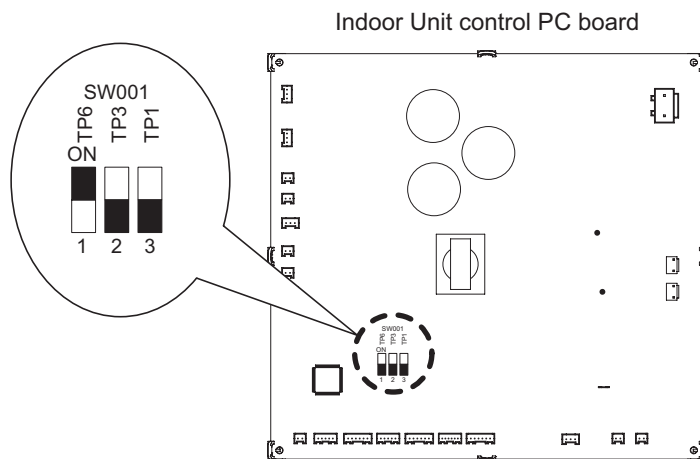

Fig. 1-17
2. Open the lid of the electrical component box and confirm the location where the Select switch on the indoor unit control PCB is placed. (Fig. 1-17)